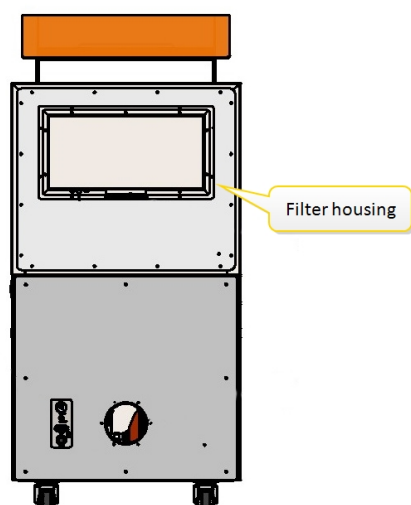

Figure 4-22 HEPA filter location
1. Find the filter housing, see Figure 4-22.